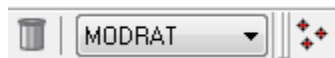

Figure 2 Model drop-down with MODRAT selected
2. Select "MODRAT" in the *Model* drop-down list to make MODRAT the active model in WMS (Figure 2).